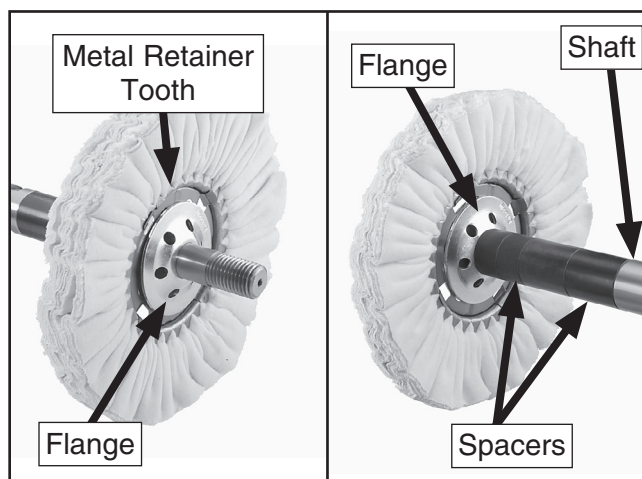

Figure 11. Wheel flanges installed on wheel (outside and inside views shown for clarity).
4. Sandwich the buffing wheel between a pair of wheel flanges (sold separately), as shown in **Figure 11**.
When using a wheel with a center metal retainer, like the one shown in **Figure 11**, make sure the flange fits inside the retainer without touching the retainer teeth in the buffing wheel.